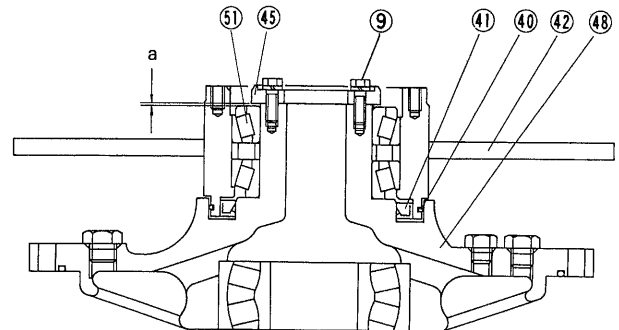

Fig. 89
Tighten bolts (9) to 15 kg-m. (Fig. 89)